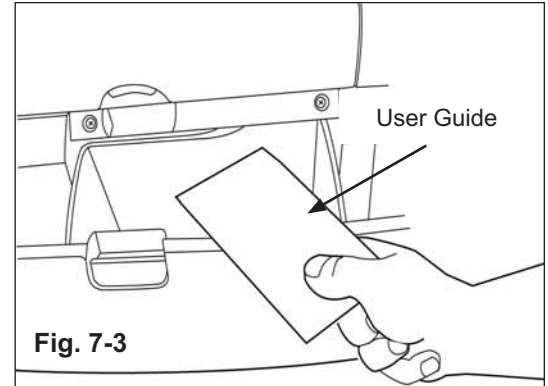

Fig. 7-3
4. Place User Guide in vehicle glove box. (Fig. 7-3)